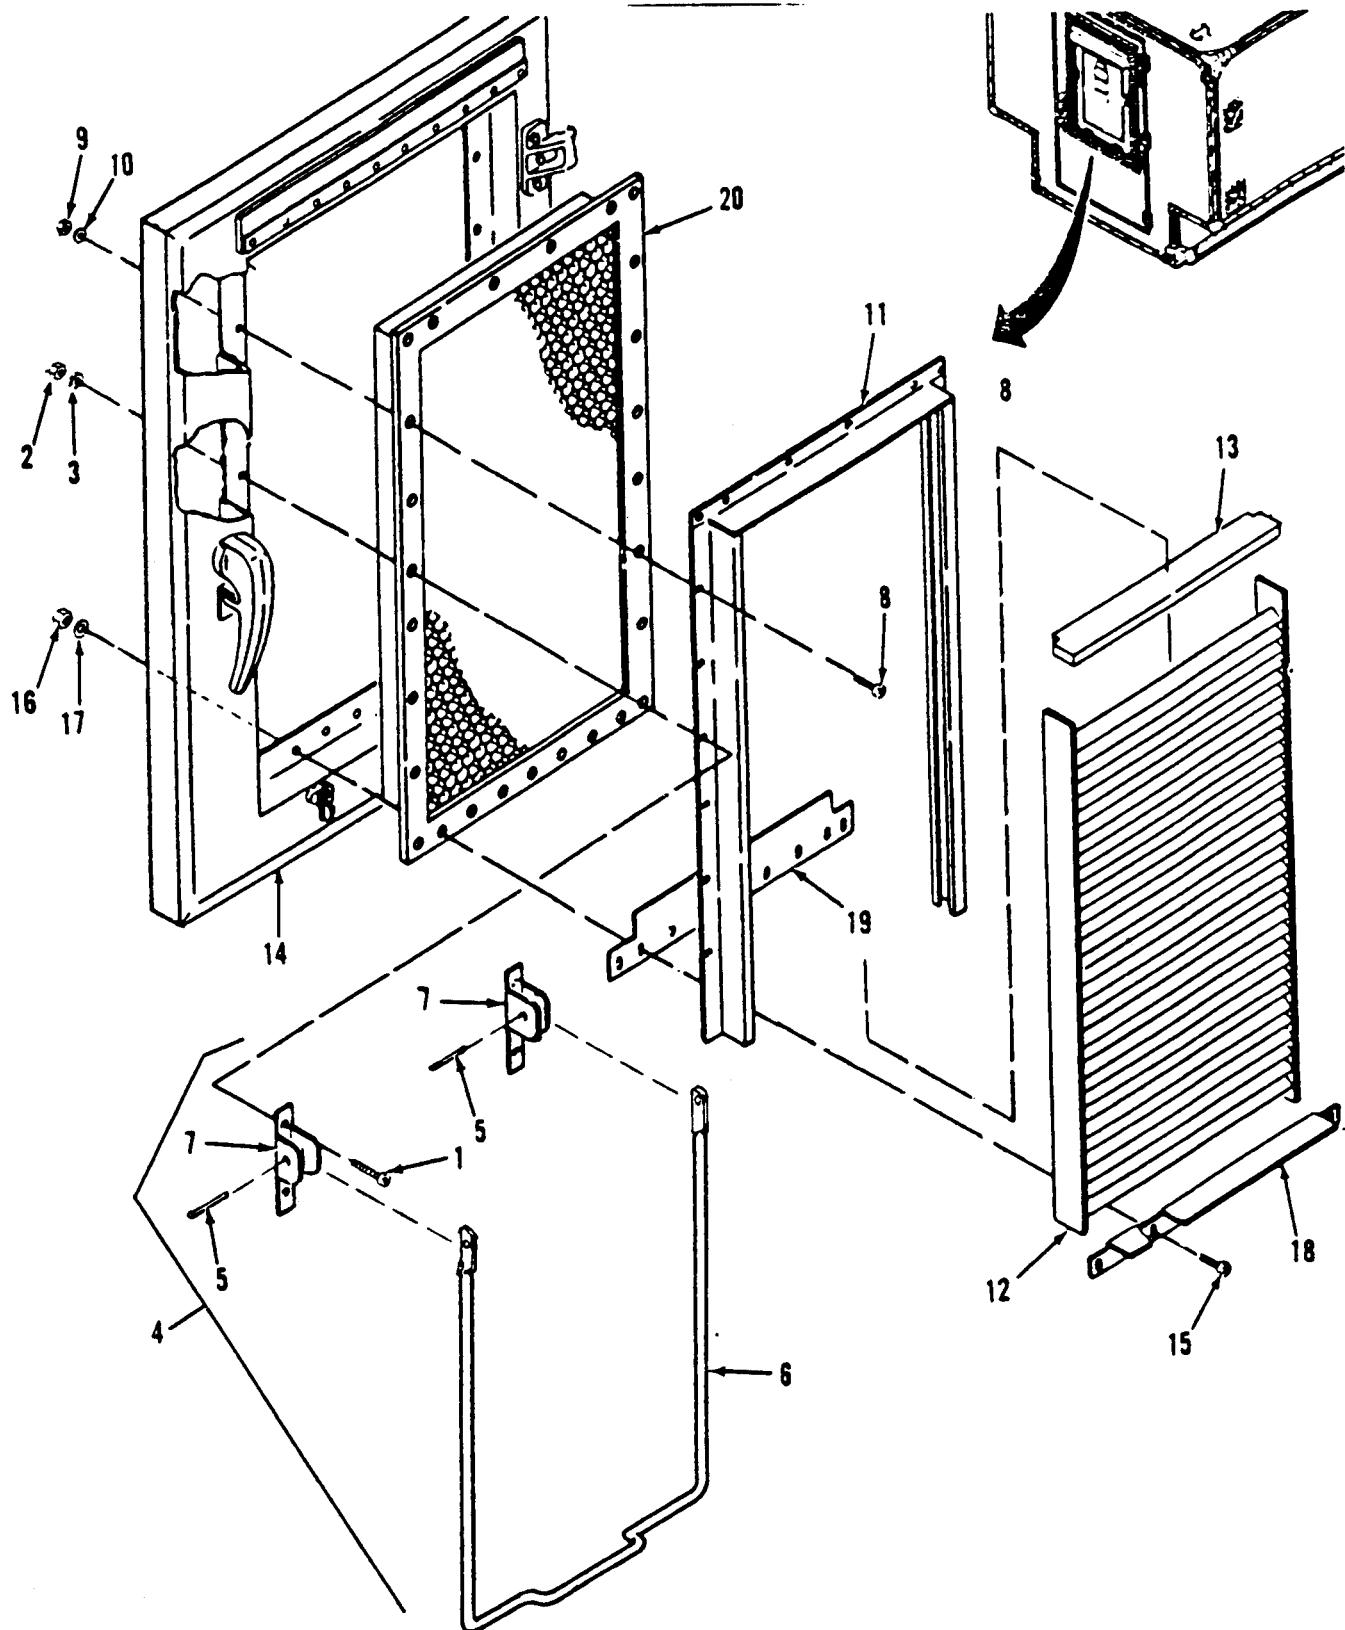

Figure 3-26. Louver Assembly, Holder Assembly, and RFI/EMI Filter Replacement.
*a . Inspect. (Figure 3-26)*
- (1) Inspect holder assembly (4) for secure mounting or damaged parts.
- (2) Inspect louver assembly (12) for external damage.
- (3) Inspect frame (18) and frame assembly (11) for secure mounting.
*b . Remove. (Figure 3-26)*
- (1) Prop louver cover assembly open.
- (2) Remove and retain four phillips head screws (1), nuts (2), and lock washers (3), and remove holder assembly (4) from frame assembly (11).
- (3) Punch out groove pin (5) to remove holder (6) from bracket assemblies (7).
- (4) Remove and retain 31 phillips head screws (8), nuts (9), and lock washers (10) attaching frame assembly (11) to inner door panel. While supporting louver assembly (12) on bottom with one hand, remove gasket (13) and frame assembly (11) from inner door assembly (14).
- (5) Slide louver assembly (12) and gasket (13) out of frame assembly (11).
- (6) Remove and retain seven phillips head screws (15), nuts (16), and lock washers (17) attaching frame (18) to inner door assembly (14). Remove frame (18), shield (19), and RFI/EMI filter (20).
**d. Install. (Figure 3-26)**
- (1) Apply sealer to both ends of top flange of shield (19).
- (2) Position RFI/EMI filter (20), shield (19), and frame (18) in place into inner door assembly (14), and secure with seven phillips head screws (15), nuts (16), and lock washers (17).
- (3) Apply silicone sealer on mounting surface of gasket (13) and insert gasket (13) and louver assembly (12) into frame assembly (11).
- (4) Position frame assembly (11) in place against RFI/EMI falter (20) and secure with 31 phillips head screws (8), nuts (9), and lock washers (10).
- (5) Position each end of holder (6) into bracket assemblies (7) and secure with groove pins (5).
- (6) Position holder assembly (4) in place over frame assembly (11) and secure with four phillips head screws (1), nuts (2), and lock washers (3).
- (7) Apply a continuous bead of sealer around mounting edges of frame (18) and frame assembly (11).